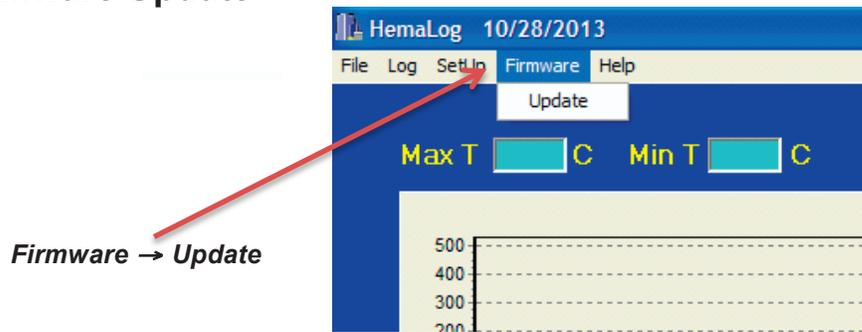

Figure 52. Firmware Update Dropdown Menu
- Once the new firmware file has been placed into the **C:/AX56_Log/Pgm** folder of the PC, press **Update** under the **Firmware** menu on the task bar of the HemaLog program to update the microprocessor's firmware. (See Figure 52.)